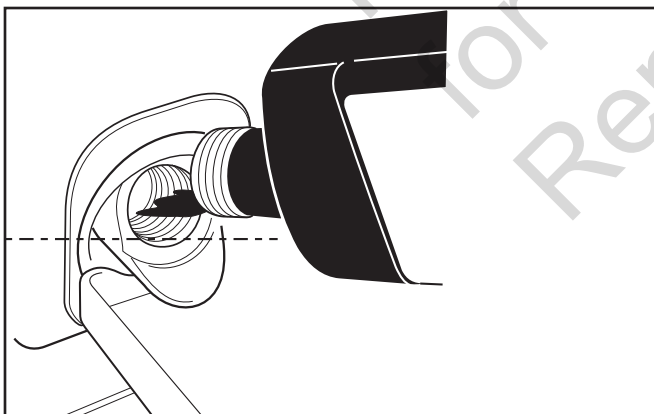

Figure 6
5. Slowly pour oil (about 13.5 oz.) into oil fill opening to the point of overflowing at oil fill cap. **DO NOT** overfill (Figure 6).